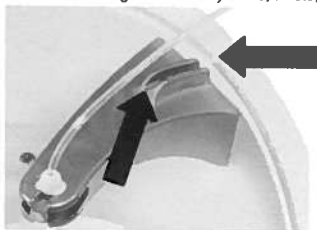

Figure 5. Place tubing into the groove and through the notch.
8. Press tubing down into groove and place tubing through notch in centrifuge ridge (see Figure 5)